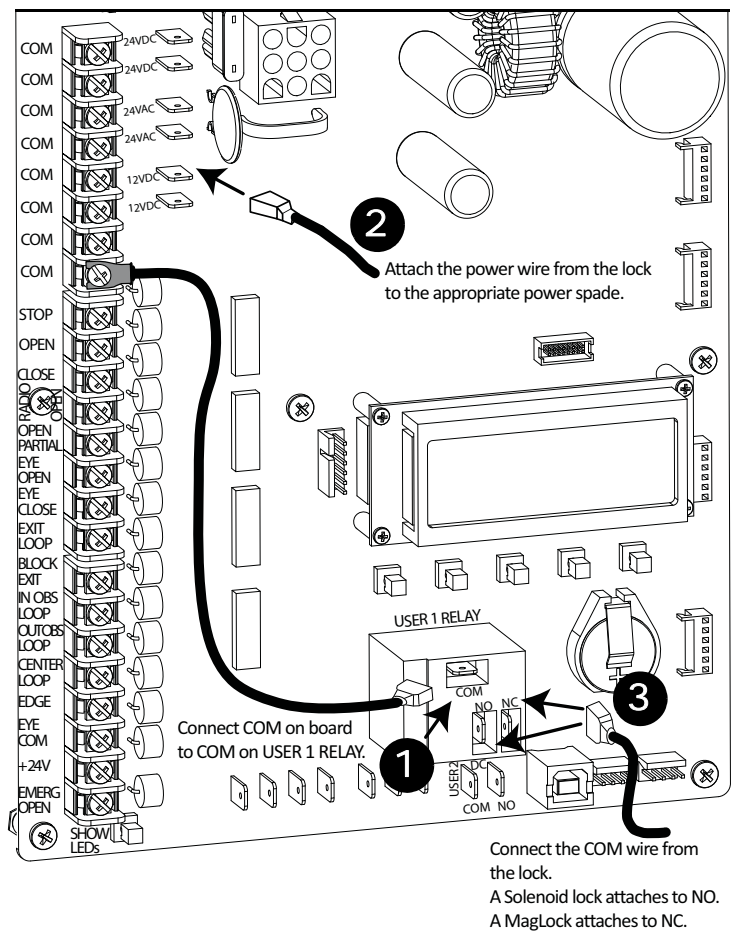

Figure 6-2.
1. Connect a wire between COM on USER 1 RELAY and a COM terminal on the electronics board. See Figure 6-2.